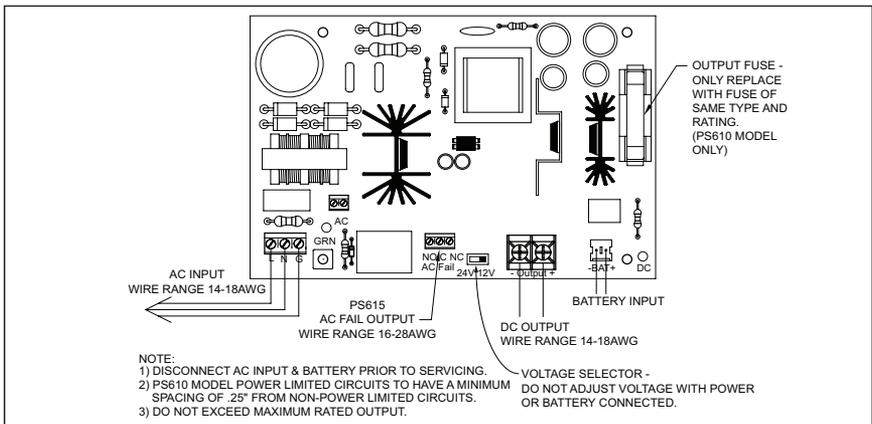

Fig. 1 - Power Supply Circuit Board
2. Route AC power through appropriate knockout and connect to the AC input terminals as marked (See Fig. 1). Use ground feature with 8-32 ground screw provided.
3. Run wiring for devices to be powered through panel knockouts as required and connect to DC output terminals (See Fig. 1). Minimum 22 AWG and maximum distance of 6170ft for field wiring. Use listed conduit or bushings for all knock-outs. Accessory boards mounted in the enclosure require 13mm high non-conductive stand offs.
4. Set DC output voltage selector switch to desired voltage prior to connecting battery and energizing AC input voltage (See Fig. 1).
11. Connect backup battery(s) to battery leads if required using the supplied cables that are suitable to the installation. Ensure correct polarity (See Fig. 1).